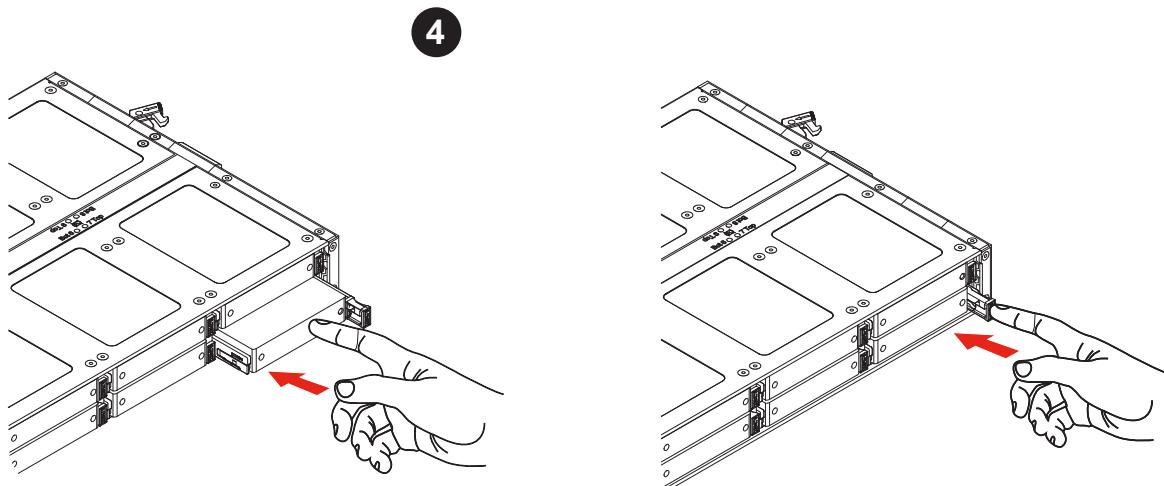

Figure 3-8. Installing a Drive Carrier into the Sled
4. Insert the drive and drive carrier into its bay. When the drive is fully inserted, push the release tab until it clicks shut. Refer to Figure 3-8.